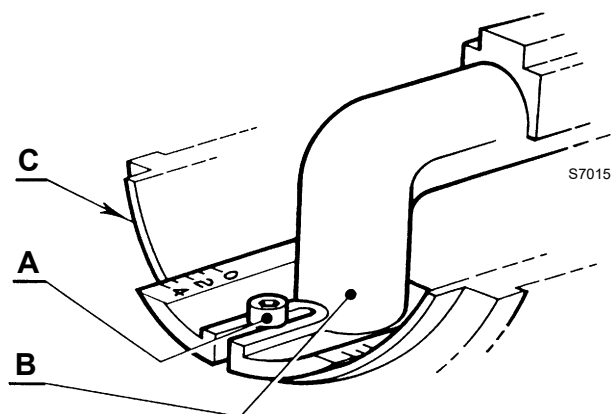

Fig. 14
- loosen the screw A)(Fig. 14), move the elbow B) so that the rear plate of the coupling (C) coincides with the set point;